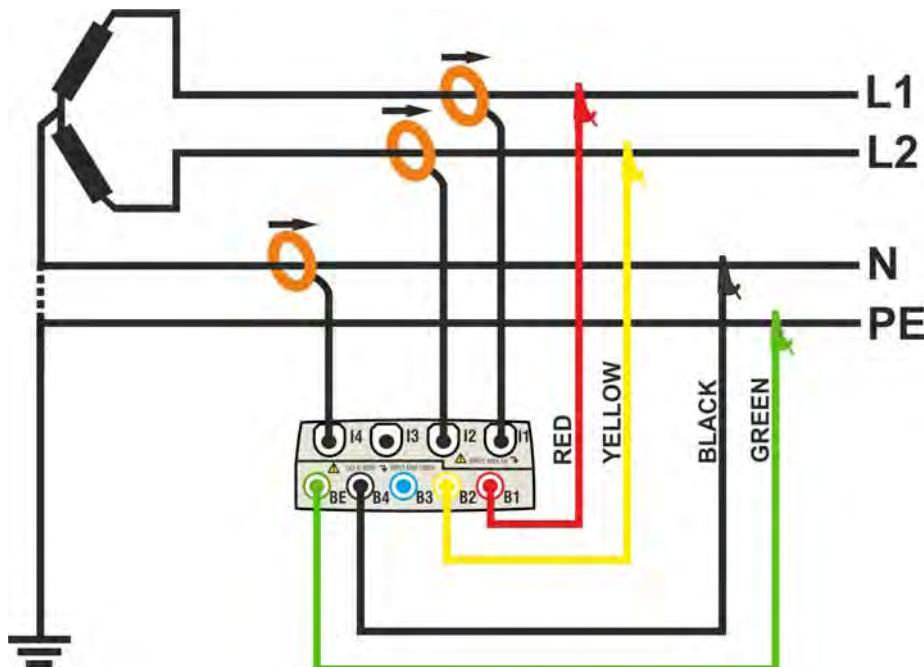

Fig. 127: Meter connection in a two phase 3-wire 3P 2E system – ENG_UK type
2. Connect voltage test leads on Phases L1, L2, N and PE cables considering the colours as shown in Fig. 127
3. Connect the transducer current clamps on Phase L1, L2, N cables as shown in Fig. 127 respecting the clamp's arrow direction indicating the current standard sequence from generator to load. **On Real Time Values' section screens (selecting a 3 wire system preliminarily) always verify the positive value of Active Power and the power factor relative to load which should be normally inductive** before starting a recording. Reverse the clamp by 180 degrees on cables in case of negative readings.